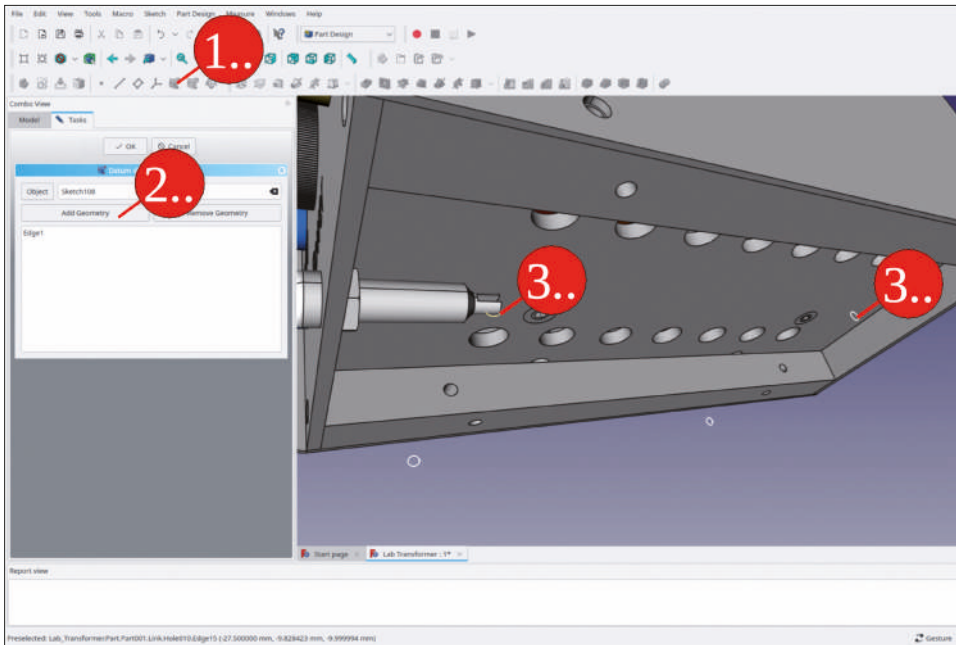

Figure 9-143
3. Click on the blue 'Create a shape binder' tool button. In the task window, click the 'Add Geometry' button, which then turns dark gray, to indicate the collector is activated. In the 3D view, mark the circle of the sketch, which is located close to the front panel (Figure 9-143). Close the task window with the 'OK' button.